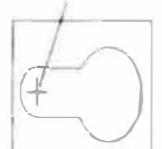

FIGURE 3
- Position the Fixture Housing (1) against the mounting surface and with a pencil, mark the screw hole locations to be located at the narrow section of the keyholes. See Fig. 3.